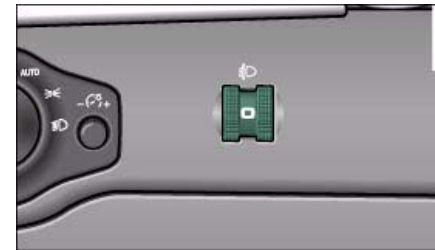

Fig. 58 Headlight range control
- Turn the thumbwheel  ⇒ fig. 58 to the appropriate setting.